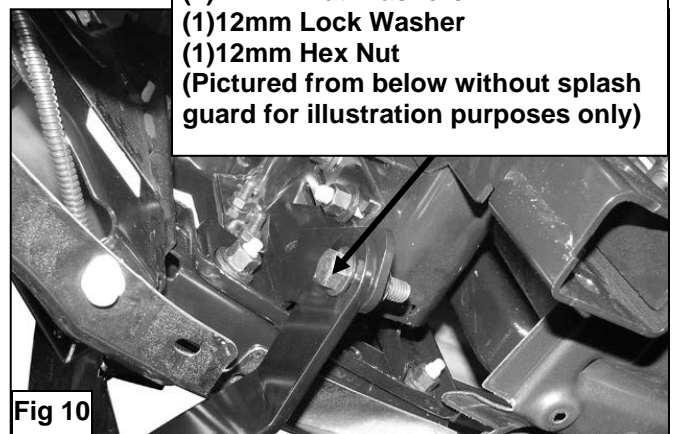

Fig 10
8. Line up the holes and attach the Grille Guard to the Support Brackets using the included (2) 12mm x 40mm Hex Bolts, (4) 12mm Flat Washers, (2) 12mm Lock Washers and (2) 12mm Hex Nuts, **(Figure 10)**. Snug but do not tighten at this time.